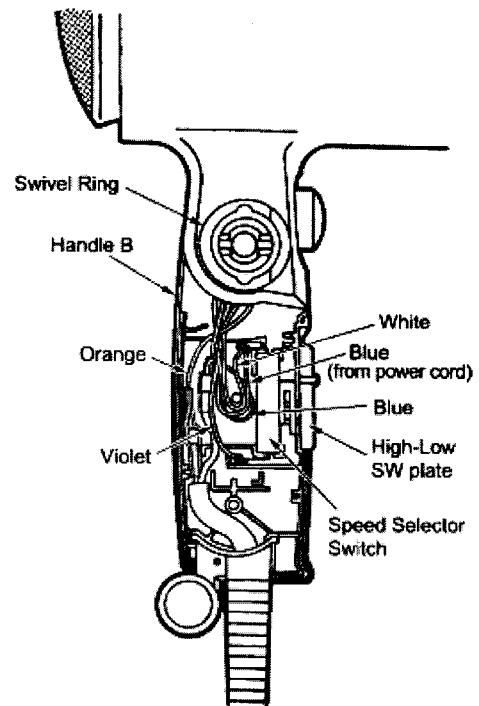

Fig.4
- (1) Attach the swivel ring as shown in Fig.4.
- (2) Assemble the handle B into the housing AB block as shown in Fig.4.
- (3) Insert the high/low switch plate into handle B as shown in Fig.4.
- (4) Insert the selector switch, next power cord, Insert each lead wire into the handle B as shown in Fig.4.
- (5) Insert the cord bushing into handle B as shown in Fig.4.
- (6) Assemble the handle.
- (7) Fasten the 2 screws for handle, and 1 screw for housing AB.